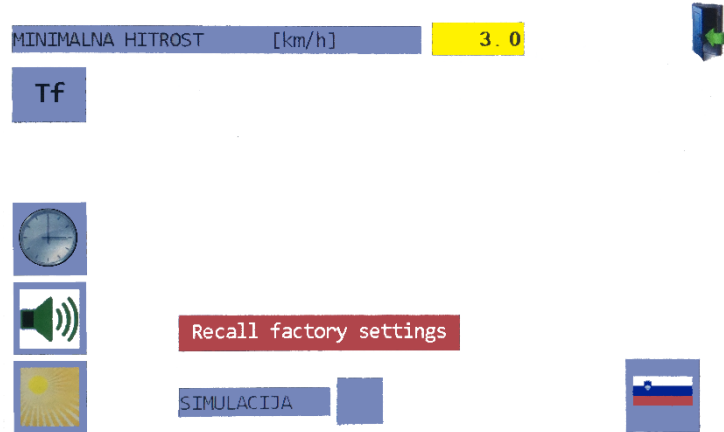

Figure 32
5.8.2. Minimum Speed (MS)
- MS is set by pressing the yellow field (Figure 32) and entering the desired MS value.